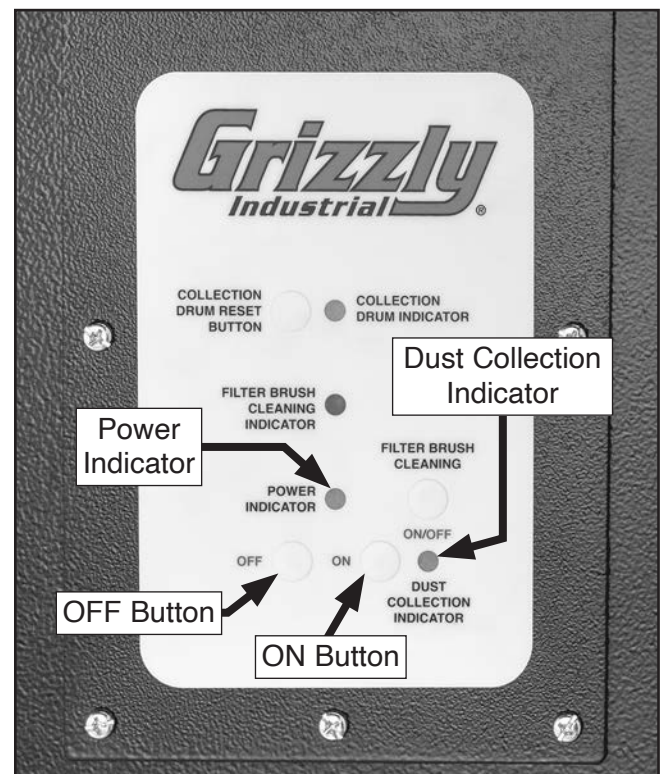

Figure 38. Location of ON and OFF Buttons and dust collection and power indicators.
5. Standing away from intake port, press ON button (see **Figure 38**) to turn main motor **ON**.